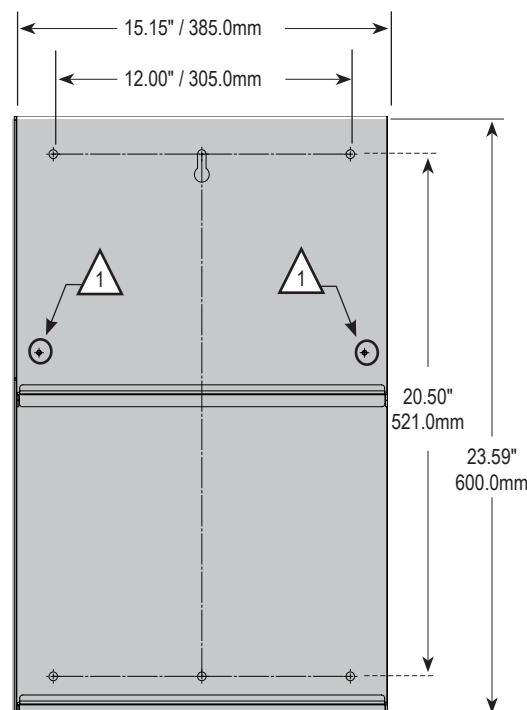
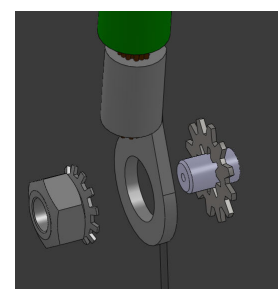

Fig. 1, Mounting hole layout
Fig. 2, Ground wire stack up
5. The rack is connected to ground via either of the #10-32 ground studs circled in Fig. 1. Follow the proper stack up as shown in Fig. 2 to attach the supplied lock washer, #10-32 nut and user-supplied ground wire. Refer to applicable codes to determine additional grounding requirements.